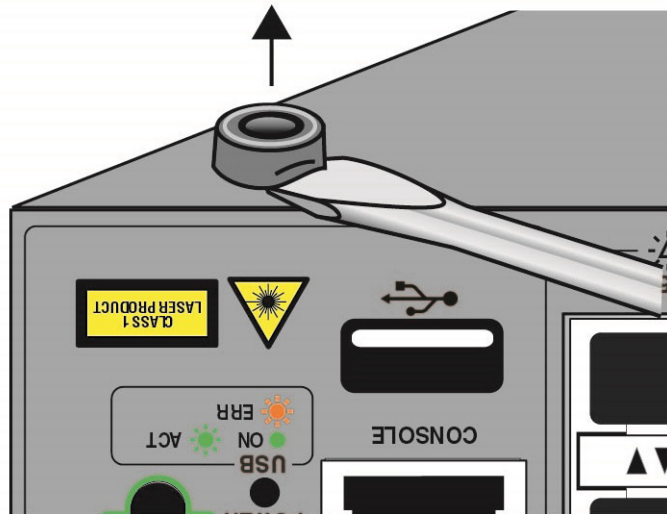

Figure 26. Removing the Bumper Feet
2. Use a small flat-head screwdriver to pry the feet from the bottom of the switch. Refer to Figure 26.